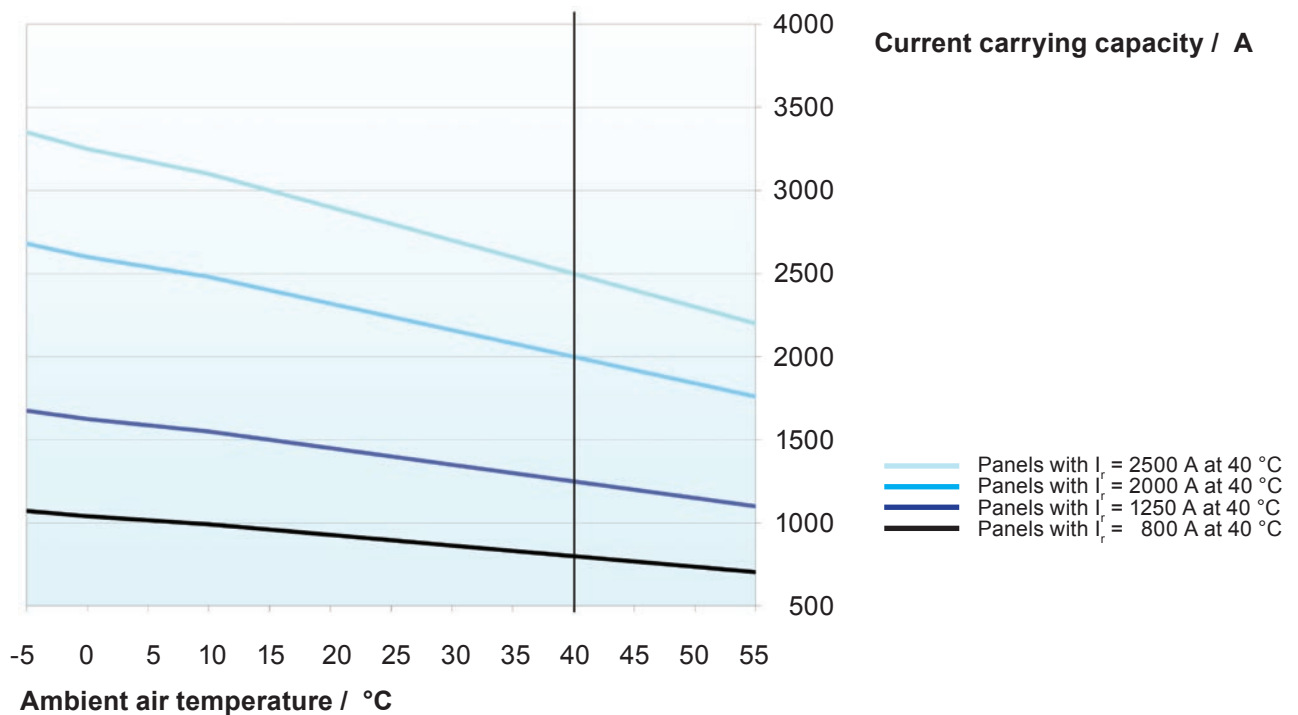

Fig. 11.1: Relationship between ambient air temperature and current carrying capacity
- higher ambient air temperature (maximum > 40 °C and maximum 24 h average > 35 °C) (see fig. 11.1)